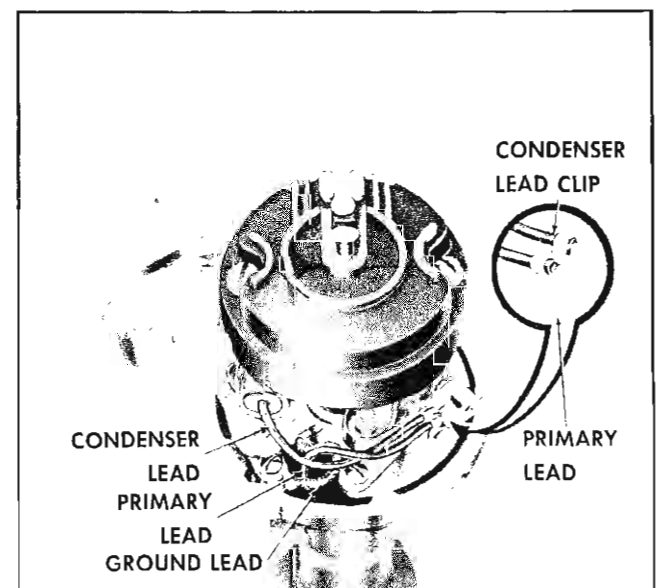

Fig. 11-43 Arrangement of Leads
**CAUTION:** Make sure the condenser lead and primary lead are located as in Fig. 11-43. Leads must be properly located to eliminate interference between leads and cap, weight base, or breaker plate.